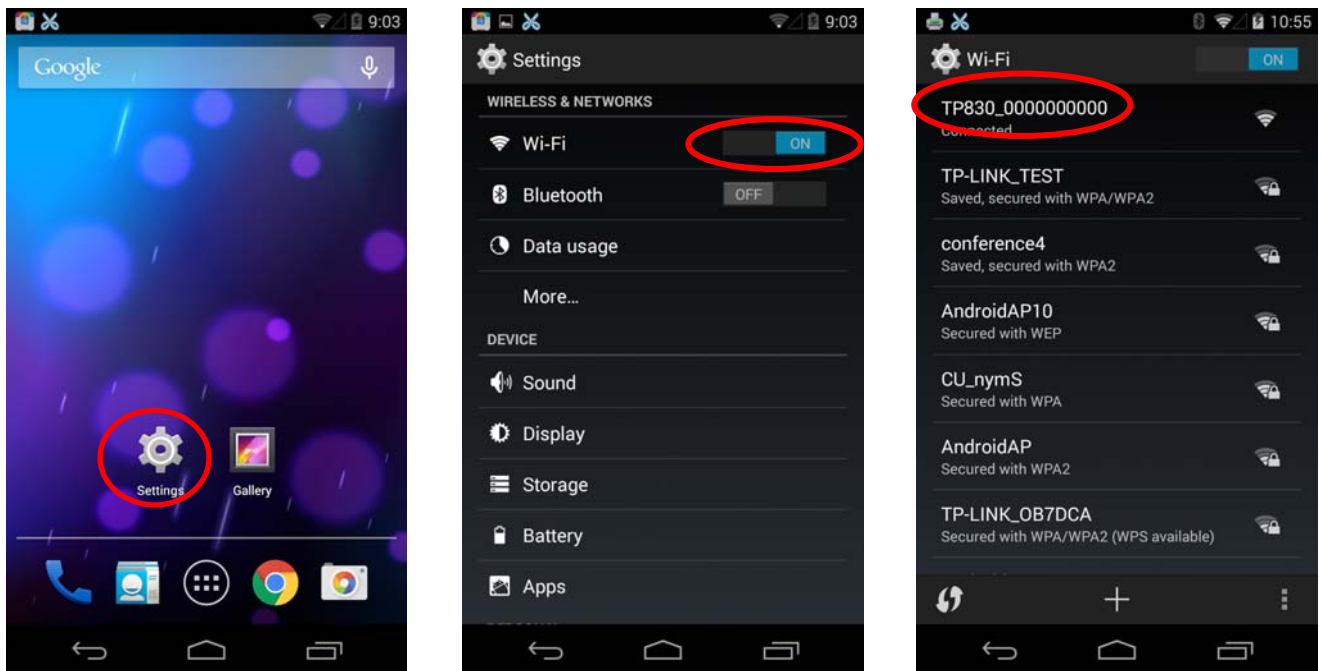

Figure 2
2. Click "Settings" and the interface pops up. Select the "WLAN" function to "ON", then click the printer Wi-Fi searched by the mobile phone to connect. The printer Wi-Fi default name is composed by "the printer model+10 SN numbers" (as shown in Figure 2).